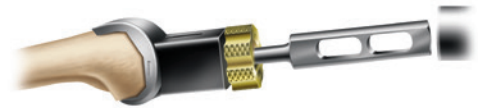

Figure 45
- 1 Flex the knee to 90° and insert the femoral trial using the femoral trial impactor (Figure 45).